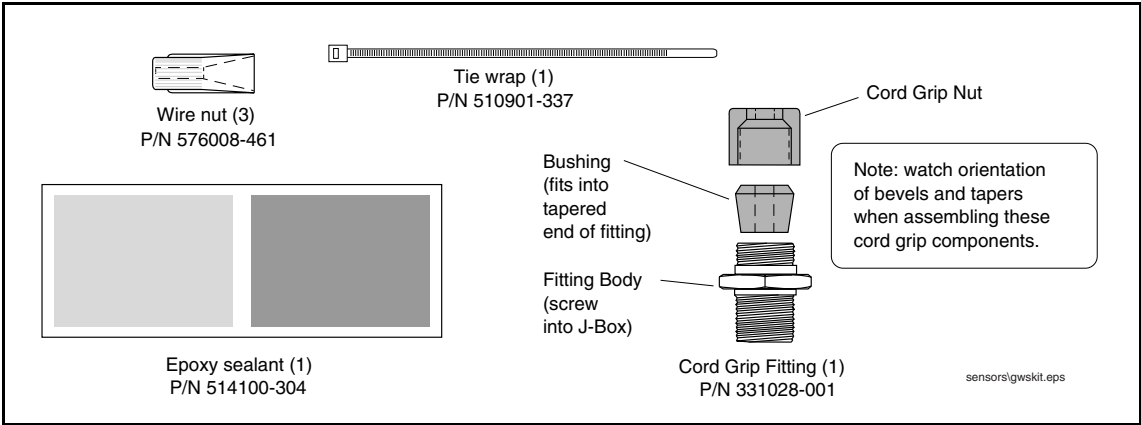

Figure 1. Installation Kit
- Installation Kit - P/N 330020-280 (Figure 1)